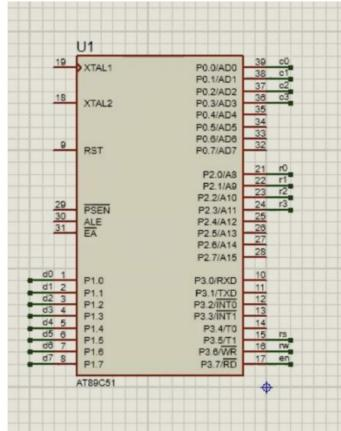

Figure 14: The assigned name of the ports.
6. **IMPORTANT STEPS!** Now, we are going to connect the keypad to the LCD screen. **To use the keypad code properly, you need to connect the same keypad ports to the same LCD ports given in Figures 14 and 15.** Connections will be made based on '*Proteus_Tutorial.mp4*' video or you can find the connections given in Figures 14 and 15. Check the video thoroughly or check the figures below to name the wire connections of the keypad and 8051.